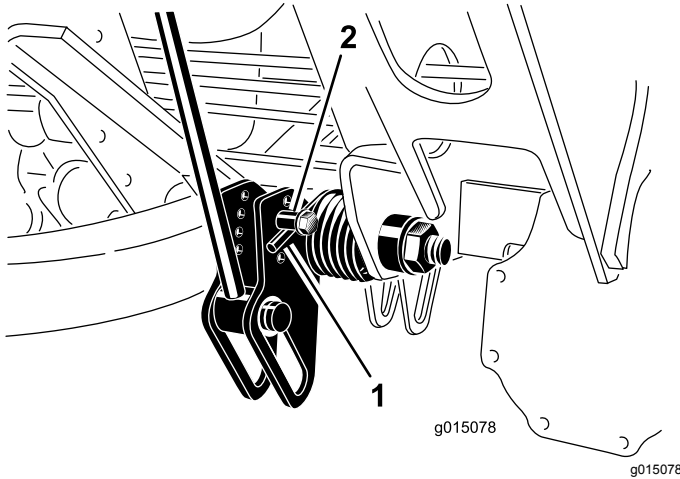

Figure 34
2. Insert a tube or similar object onto the long spring end to relieve the spring tension during the adjustment (Figure 34).
3. While relieving the spring tension, remove the bolt and locknut securing the spring actuator to the bracket (Figure 34).